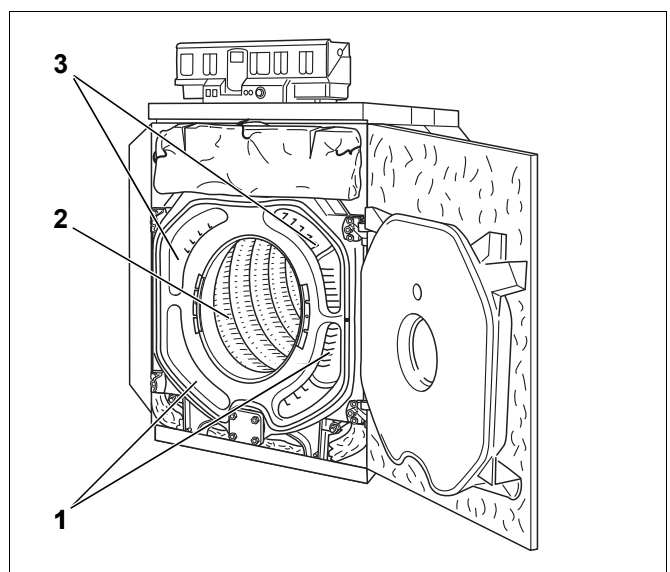

Fig. 74 Clean the hot gas flues
- Clean the hot gas flues with cleaning brushes 1 and 2 from the front to the back (Fig. 74, [1] and [3]).
- Clean the remainder of the combustion chamber (Fig. 74, [2]) with cleaning brush 2.